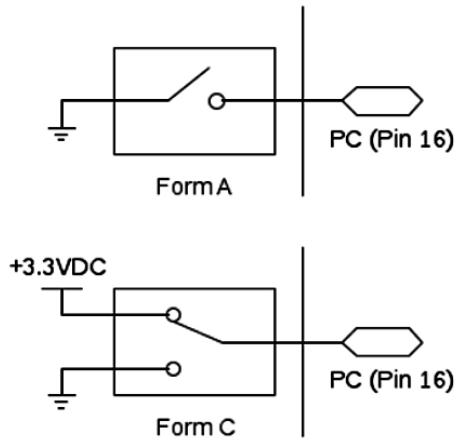

Fig 2: Switch Configurations
Applications requiring a digital pulse counter, such as reed switch power metering, can take advantage of the OE3x module's integrated pulse counter peripheral. The pulse counter can be configured for either Form A or Form C style input(See Figure 2), and can log accumulative counts, or counts per time period. This function is only available on pin 16 (PC).